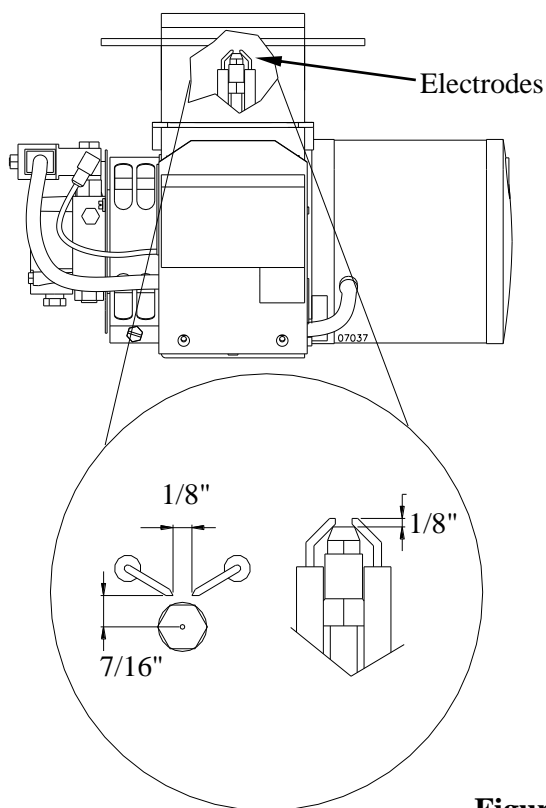

Figure 21
4) Reset the spacing as shown below in Figure 21.